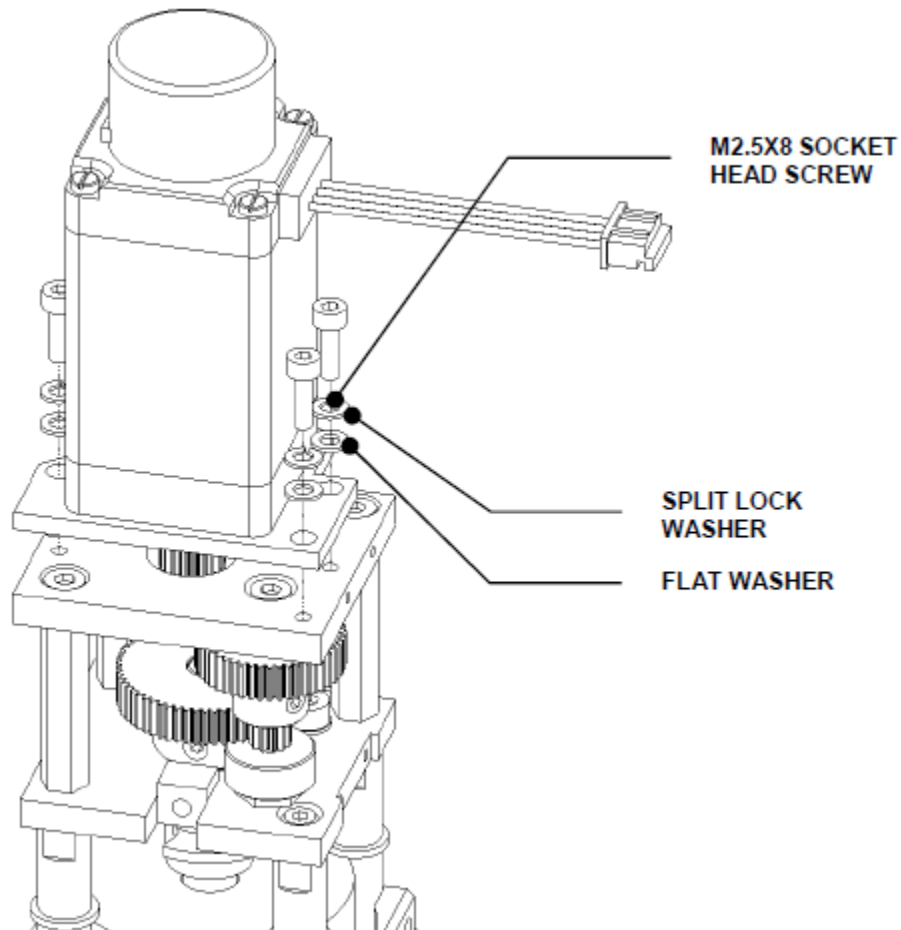

Figure R-5: The Motor Assembly
The position of the motor assembly is shown in Figure R-5.
1. Remove the three M2.5 x 8 Socket Cap Screws (Figure R-5).